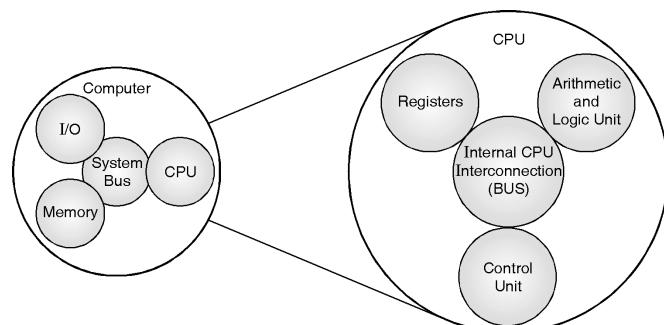

Fig. 9.2.2 : Structure of a CPU
5. The CPU is further divided into three units as shown in the Fig. 9.2.2.